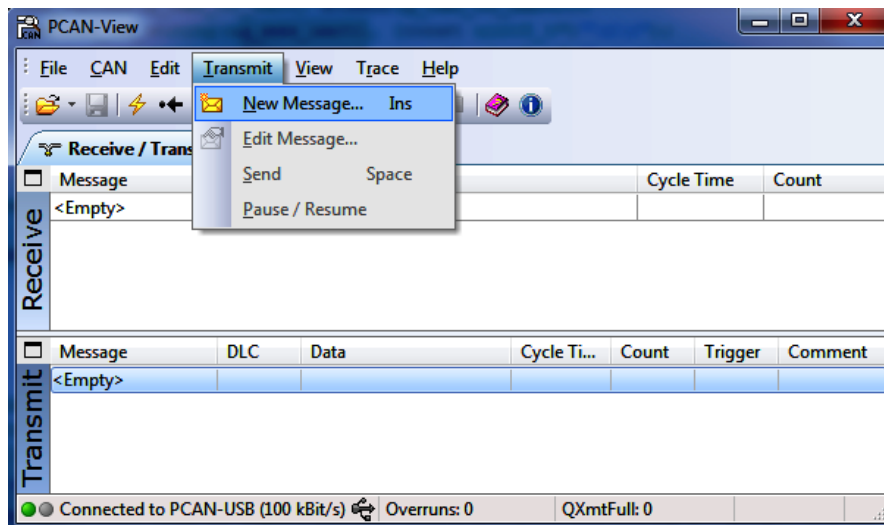

Figure 33 • Transmit New Message
1. Choose **Transmit > New Message** to enter a new transmit message using the PCAN-View window as shown in Figure 33. The **New Transmit Message** window is displayed.